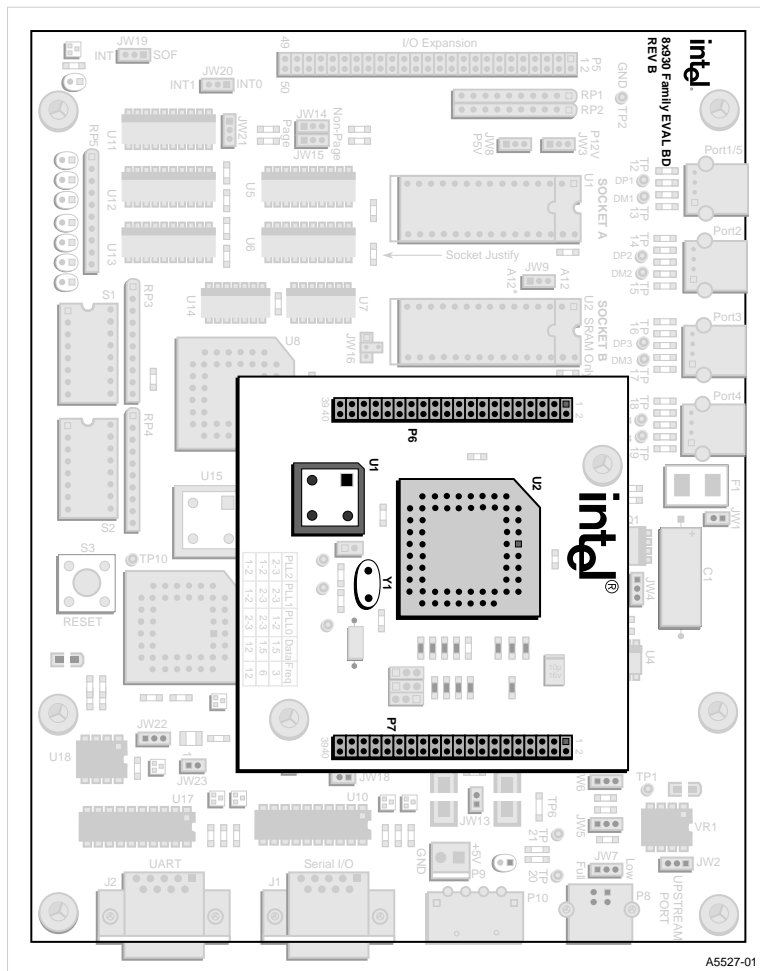

Figure 2. Adapter Board Orientation
2. Place the adapter on the evaluation board, ensuring that the connectors are properly aligned, and press the adapter onto the evaluation board until the connectors are fully engaged. Refer to Figure 2 for the correct orientation for the adapter board.